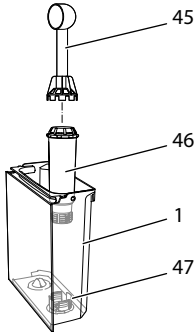

Fig. 25: Screwing/Unscrewing the water filter
- Remove the water filter when the appliance requests you to do so (see Fig. 25 *Screwing/Unscrewing the water filter* on page 47).